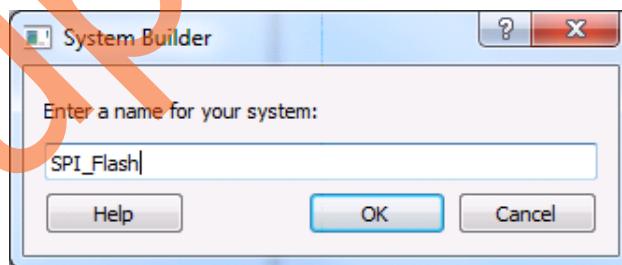

Figure 6 • System Builder Window
8. Enter the name of the system as **SPI_Flash** and click **OK.**, as shown in Figure 6.